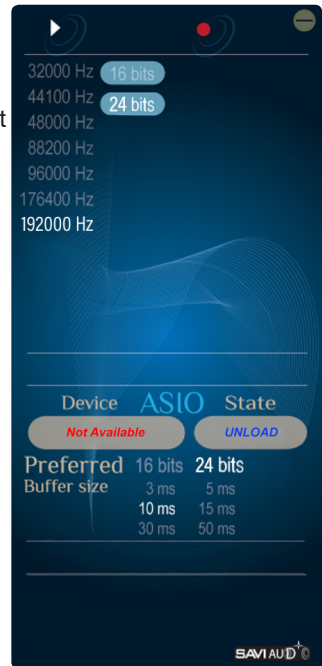

Figure 2
4. You can also control playback settings through the USB BRAVO-HD Audio Device Control Panel (Figure 2).